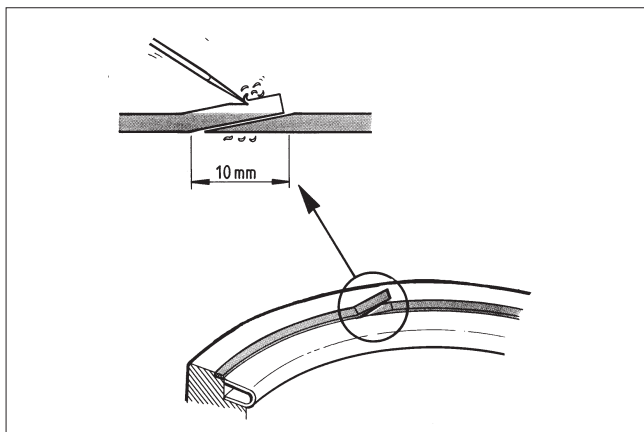

Fig. 12 Mounting the body seal
- Remove the clamp ring (2) by untightening the screws (27).
- Remove the old body seal (19) and the seat ring (4). Change the seat ring if it is damaged.
- Mount a new, self-adhesive body seal (19) into the body. The surface must be clean and free of grease. Handle the ends of the seal according to Fig. 12.